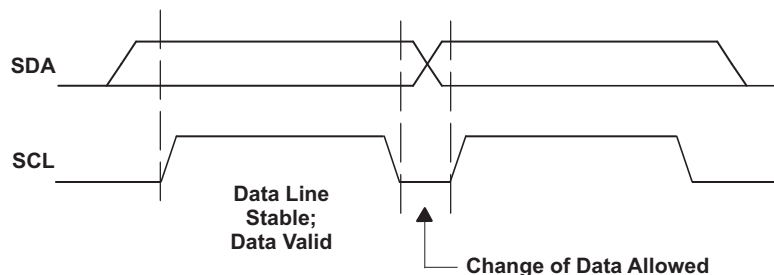
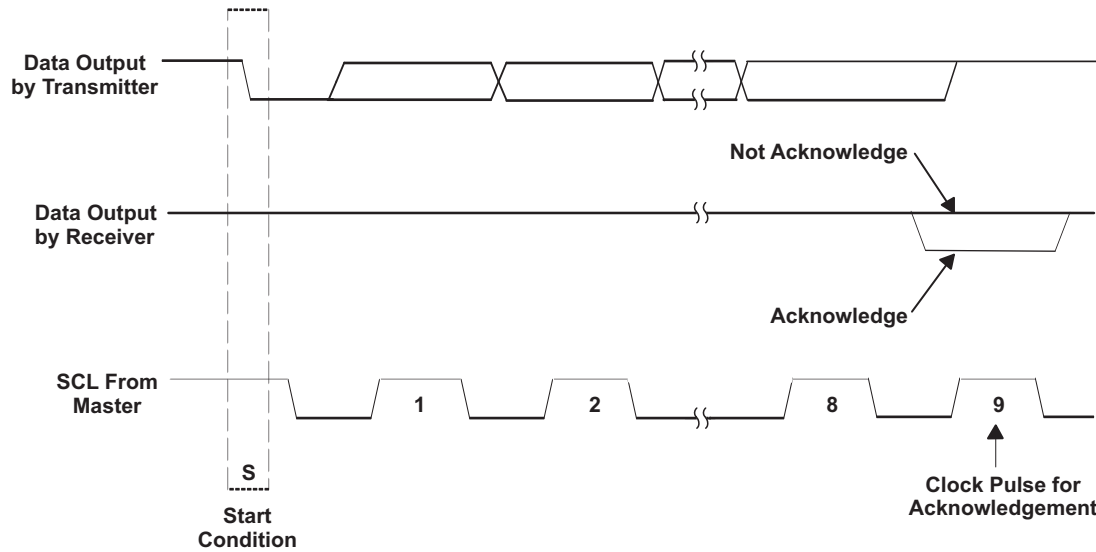

Figure 6. I²C Bit Transfer
Figure 7. I²C Acknowledge
- The *master* then generates the SCL pulses and transmits the 7-bit address and the *read/write direction bit* R/W on the SDA line. During all transmissions, the master ensures that data is *valid*. A *valid data* condition requires the SDA line to be stable during the entire high period of the clock pulse (see Figure 6). All devices recognize the address sent by the master and compare it to the respective internal fixed addresses. Only the slave device with a matching address generates an *acknowledge* (see Figure 7) by pulling the SDA line low during the entire high period of the ninth SCL cycle. On detecting this acknowledge, the master knows that a communication link with a slave has been established.